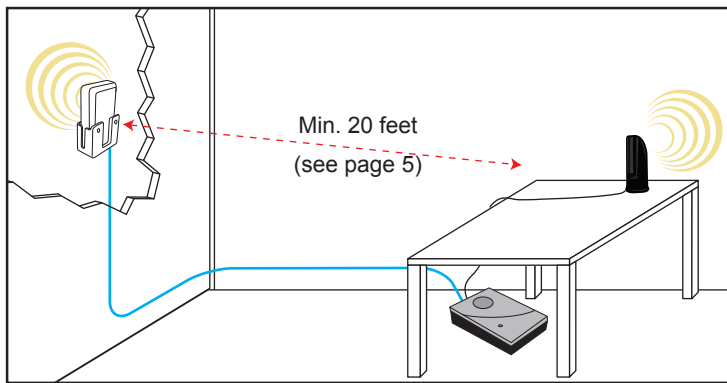

Figure 8
1. Select a location on an outside wall as high as possible and at least 20 feet away from where the signal booster will be located (see Figure 8).